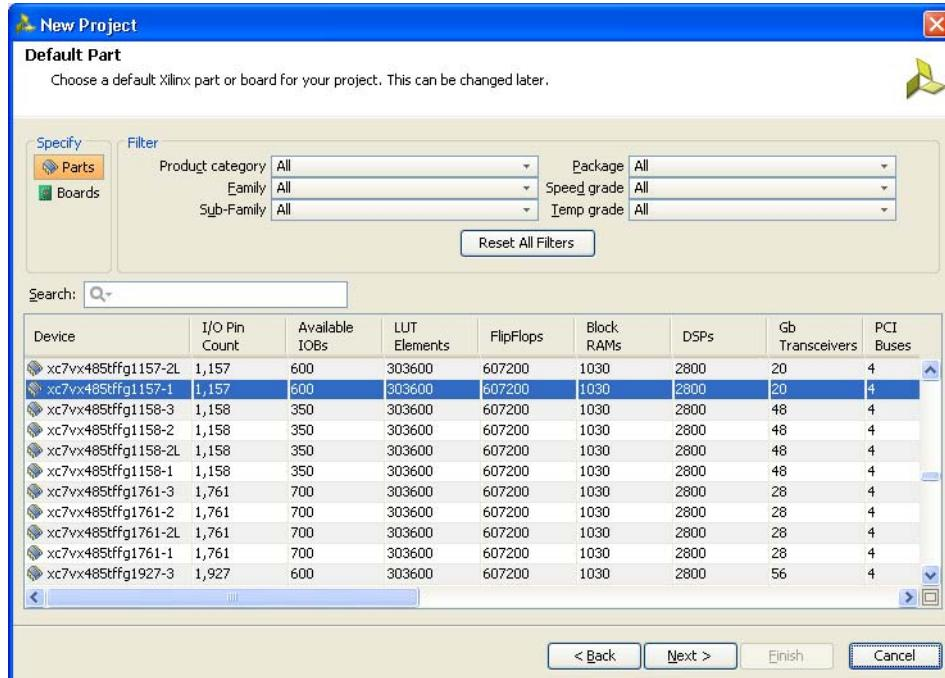

Figure 4-8: Default Part (Default Window)
- Click **Next** to proceed to the Default Part page (Figure 4-8) where the device that needs to be targeted can be selected. The default Part page appears as shown in Figure 4-8.